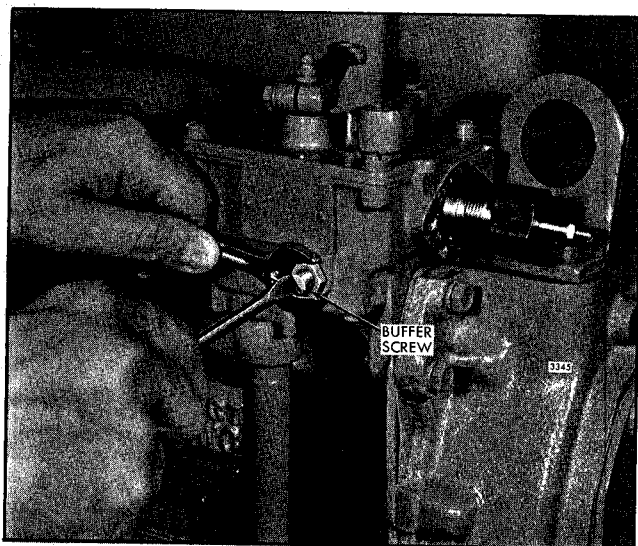

Fig. 9 - Adjusting the Buffer Screw
1. With the engine running at normal operating temperature, turn buffer screw in (Fig. 9) so that it contacts the differential lever as lightly as possible and still eliminates the engine roll.